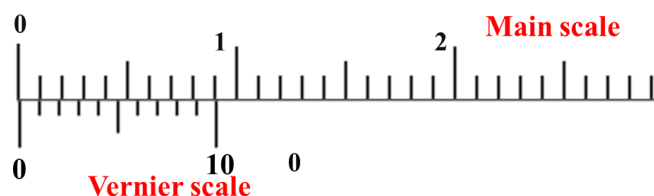

Figure 2 Vernier scale and main scale
1. To find the Least Count (LC) of the vernier calipers (see Figure 2)